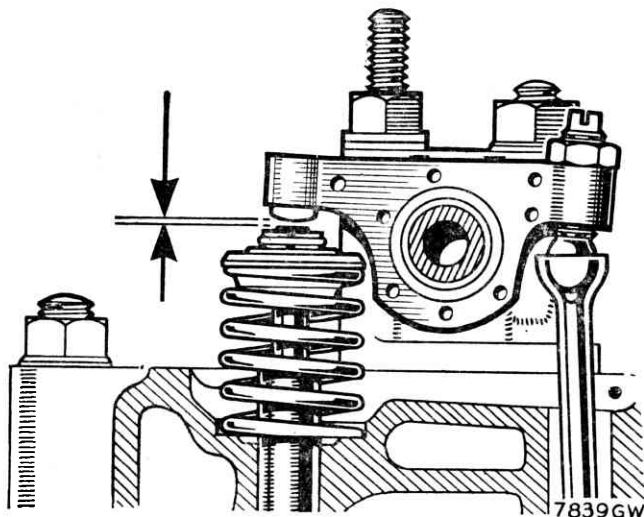

Fig. A.7
- (1) Remove the rocker cover.
- (2) Remove the sparking plugs, engage top gear and push the car forward, or jack up one side of the front suspension and rotate the road wheel to turn the crankshaft.
- (3) Rotate the crankshaft until the valve being checked has its tappet resting opposite the peak on the camshaft, i.e. valve is completely closed. This cannot be observed accurately, therefore if checking is carried out according to the adjustment chart, this will avoid turning the crankshaft more than is necessary. The valve rocker clearance is given in 'GENERAL DATA'.
- (4) Hold the adjusting screw against rotation while slackening the locknut, insert the feeler gauge and turn the adjustment screw until the gauge is a sliding fit (see Fig. A.7), tighten the locknut and recheck the clearance.
- (5) Refit the rocker cover with a new joint washer if necessary, refit the sparking plugs and lower the car if jacked up. ●